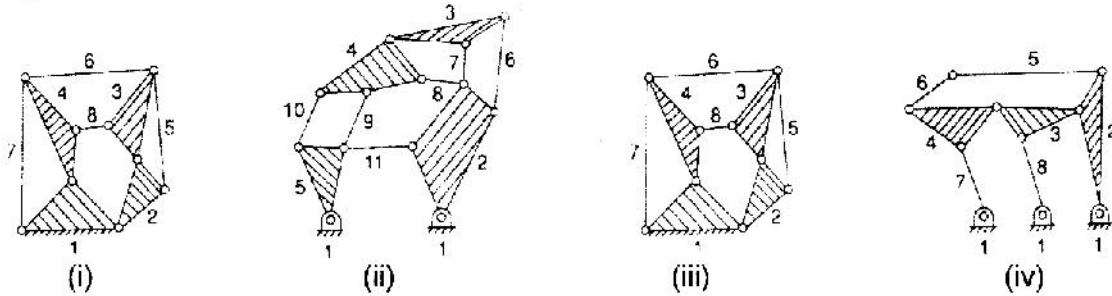

Figure 1
1. a) Determine the degrees of freedom of the following mechanisms shown in the figure 1.